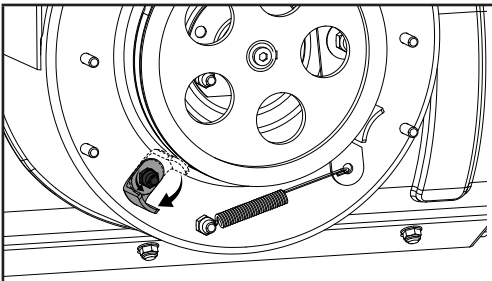

Figure 40
- Unscrew the bolt on the belt guard (Fig. 40).